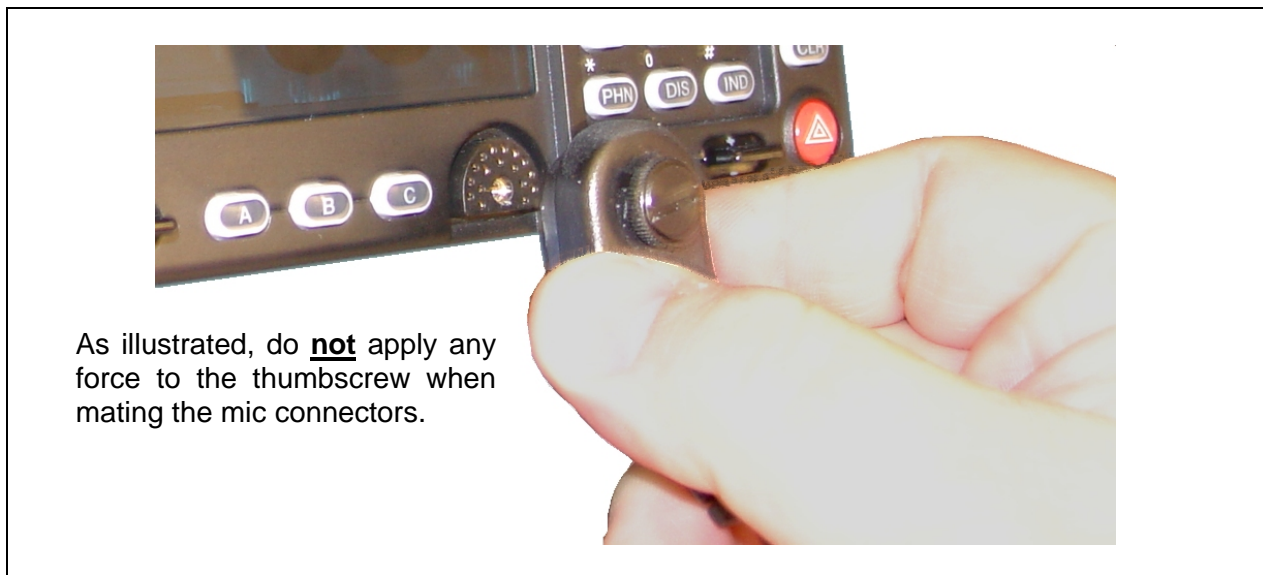

Figure 11-1: Attaching the Microphone to the CH-721 Control Head
1. As illustrated in Figure 11-1, grasp the mic's connector with a thumb and index finger on the sides of the connector just adjacent to the thumbscrew.